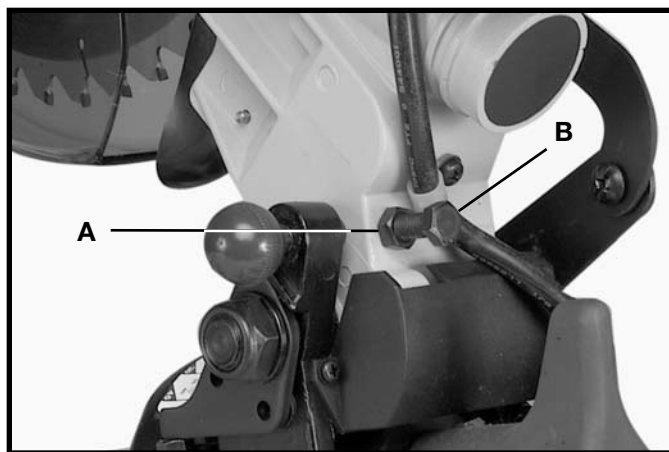

Fig. 33
Loosen the locknut (A) Fig. 33, and turn the screw (B) clockwise to increase or counterclockwise to decrease the spring tension. After the spring tension has been adjusted, tighten locknut (A).